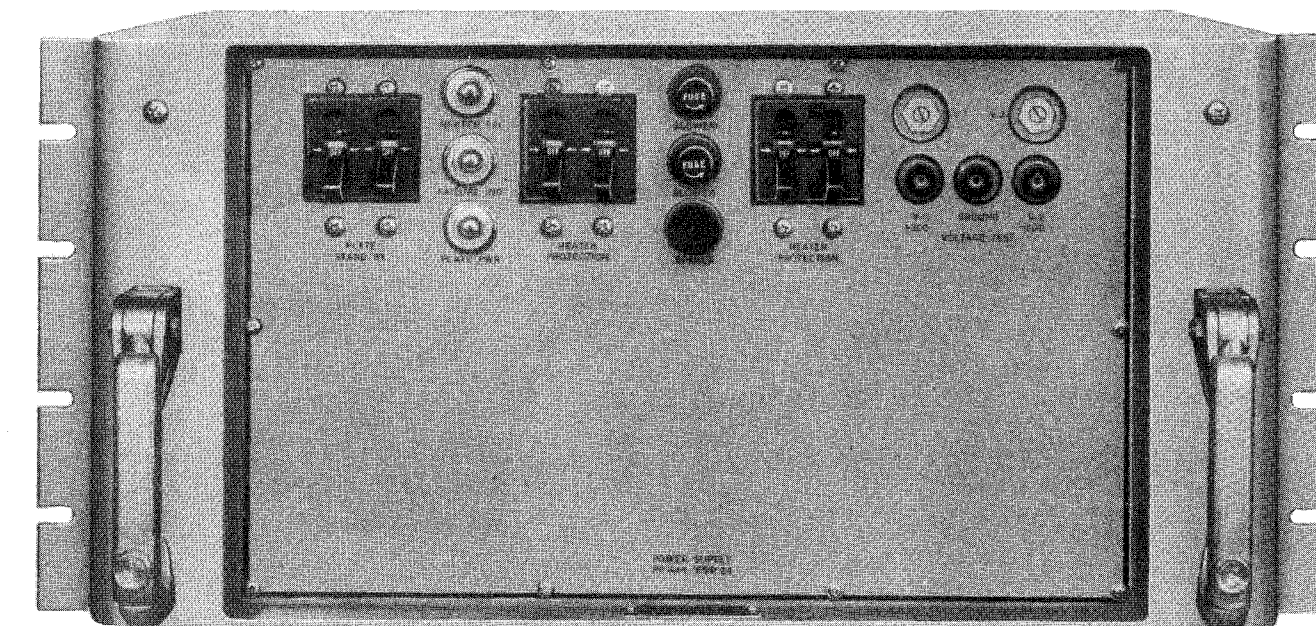

Figure 1-28. Power Supply PP-648/FRR-24
(15) POWER SUPPLY PP-648/FRR-24. (See Figures 1-28 and 1-29).—The PP-648/FRR-24 is a fifteen-tube electronically-regulated power supply located in bay 4 of the AN/FRR-24 Radio Receiving Set. The A.C. input circuit, filament transformer, plate transformer and rectifier circuits are similar to those in Power Supply PP-590/FRR-24 described in foregoing paragraph 2 b. (14). The A.C. input is connected from the Power Distribution Panel SB-141/FRR-24 to the PP-648/FRR-24 via the A.C. input connector J-2203. The A.C. control circuits are also